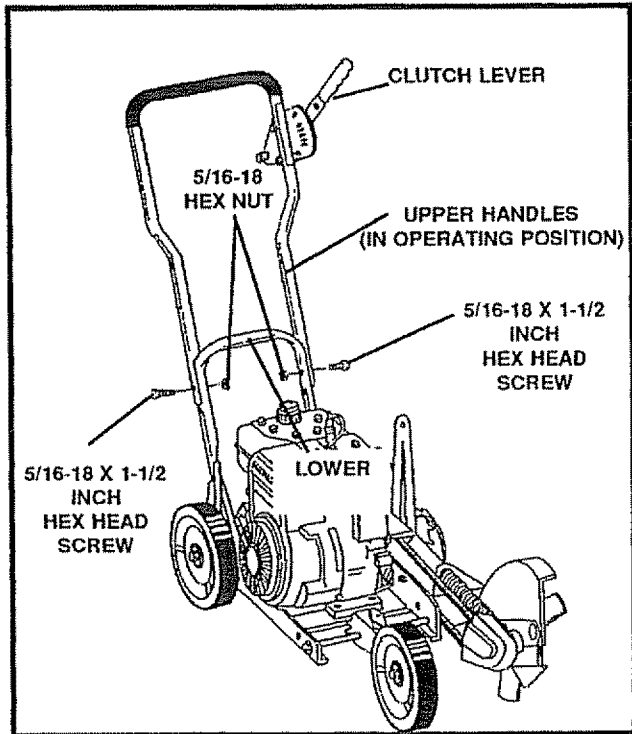

FIG. 3B
- Place the upper handle on the lower handle as shown in Fig. 3B. Align holes in the upper handle with the top set of holes in the lower handle and secure in place with two (2) 5/16-18 x 1-1/2 inch hex head screws and two (2) 5/16-18 hex head locknuts (found in parts bag)